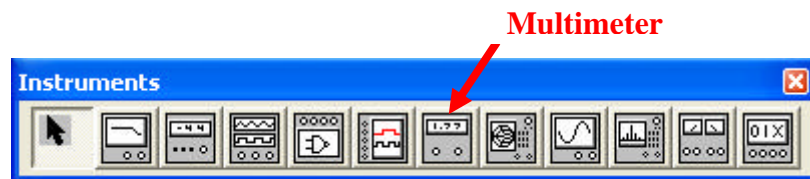

Figure 13: Instruments Toolbar
- a. Select **View** → **Toolbar** → **Instruments**. The Instruments toolbar will open as shown in Figure 13.